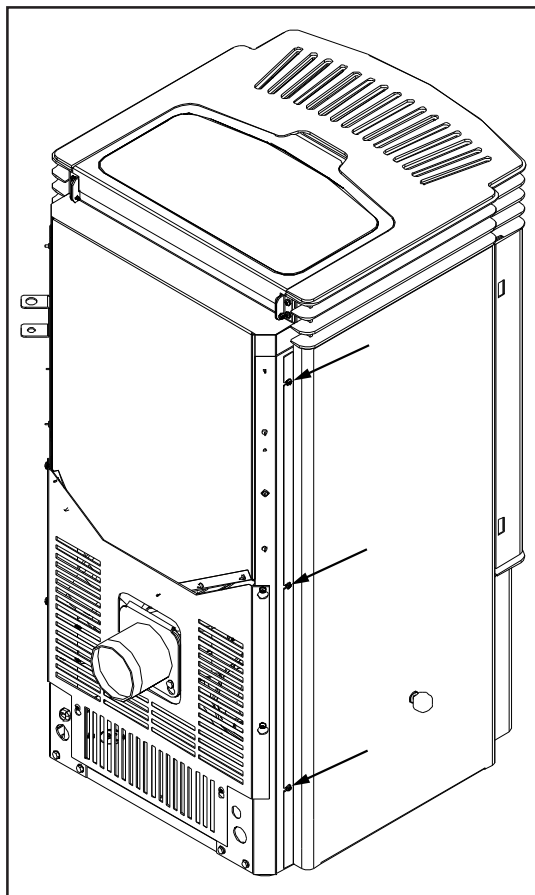
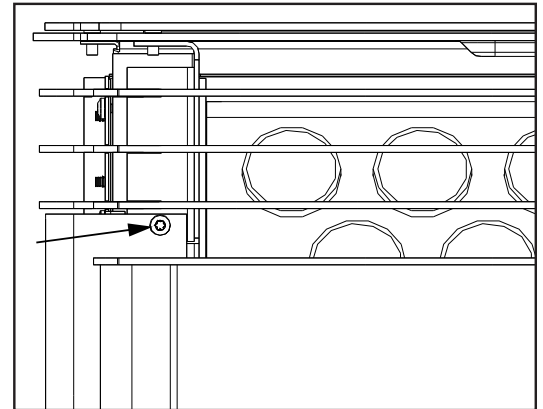
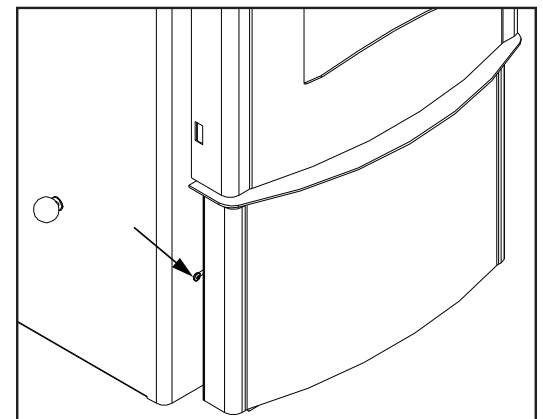
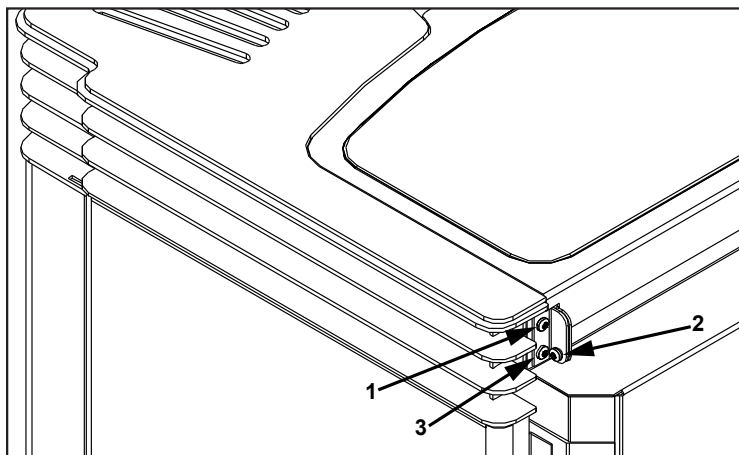

Figure 29: Screws at back of the cab side.
Figure 27: Screws above door top corner.
Figure 28: Screw behind ash box.
Figure 30: Installing Hopper Lid.
- If the flame is in the middle of these two characteristics with a bright yellow/orange, active flame with no black tips then the air is set for proper operation (see Figure 28).
1. Remove the screws above the door on both sides (Figure 27).
2. Ensure the screws behind the ash box, one on each side (Figure 28) and the three (3) on each side at the back (Figure 29) are loosened.
3. Slide the three (3) slots at the back of the cab panels under the three (3) screws at the back.
1. Attach the hopper brackets to the back of the unit with a screw in each top hole of the brackets (#1 in Figure 30). Do not tighten these screws until all six (6) screws are in place.
2. Lay the hopper lid in place, slide the bushing into the bracket, and attach the lid to the brackets (#2 in Figure 30). The screw must go through the bushing in the bracket then into the hopper cover.
3. Install the screw in the bottom hole on both brackets (#3 in Figure 30).
4. Let the hopper lid lay flat on the stove top then tighten the four (4) bracket screws.
2. Remove both cab panels. Remove the screws above the door on both sides (Figure 27) and ensure the screws behind the ash box, one on each side (Figure 28) and the three (3) on each panels at the back (Figure 30) are loosened. Slide the front of the cab panels out then slide the back of the cab panels out from under the three (3) screws at the back (Figure 29). Note: The slider knob will need to be removed if installed.